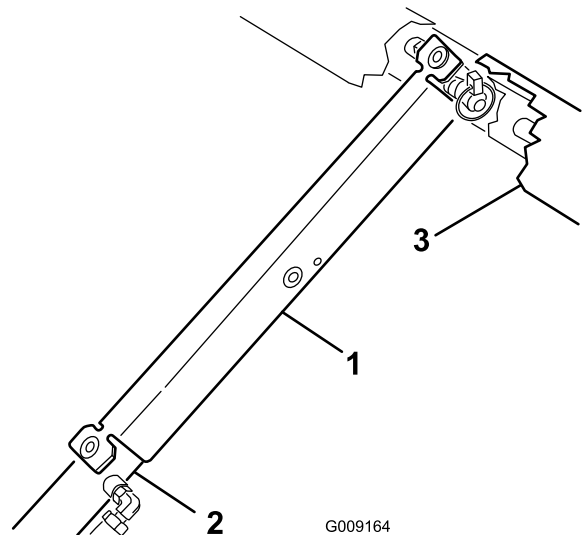

Figure 38
3. Push bed support onto cylinder rod, making sure support end tabs rest on end of cylinder barrel and on cylinder rod end (Figure 38).